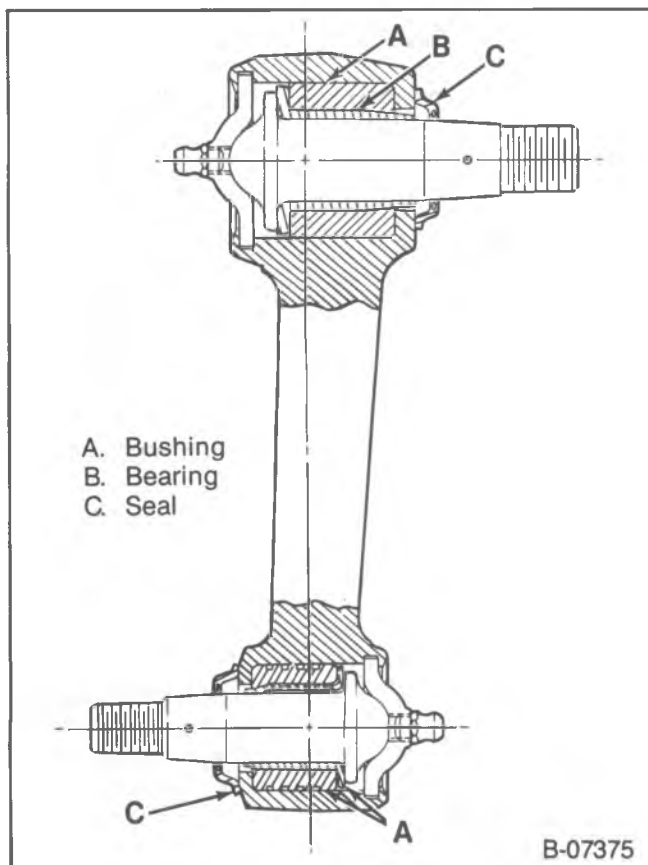

Figure 6—Idler Arm (Internal View)
- Do not attempt to free the ball stud by using a pickle fork or wedge type tool, because seal or bushing damage could result (figure 6). Use the proper tool to separate all ball joints.